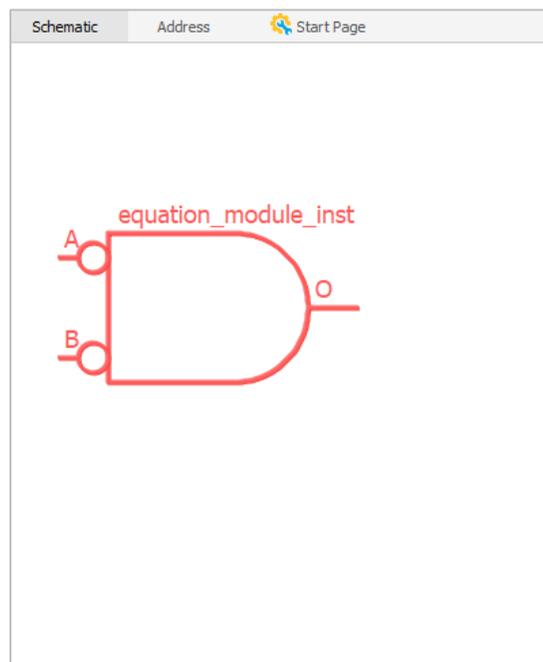

Figure 2.51. Schematic View Shows an Equation Module
3. Click **OK**. The schematic block for the equation module in red appears in the Schematic view (Figure 2.51).